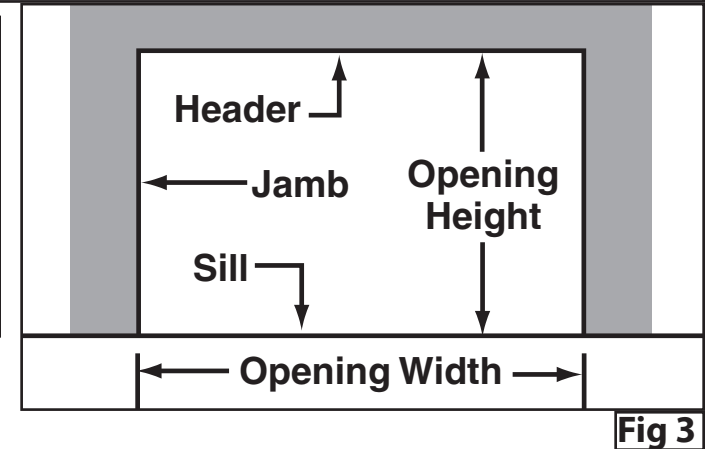

Fig 4
- Does the "G" dimension on your "DOOR INSTALLATION DATA" sheet match your opening width. See FIG 4
- Check "G" Dimension as illustrated in Fig 4 on page 5. "G" Dimension must match your "DOOR INSTALLATION DATA" sheet.